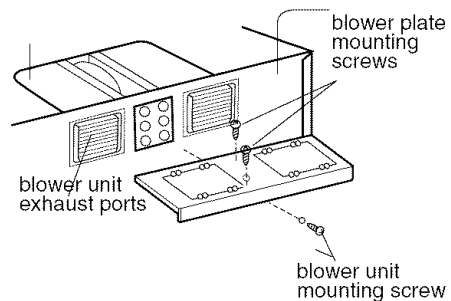

Figure 17
7. Reattach the blower plate to the top of the cabinet as it was originally assembled. Attach with one blower unit mounting screw and then two blower plate mounting screws. See **Figure 17**.